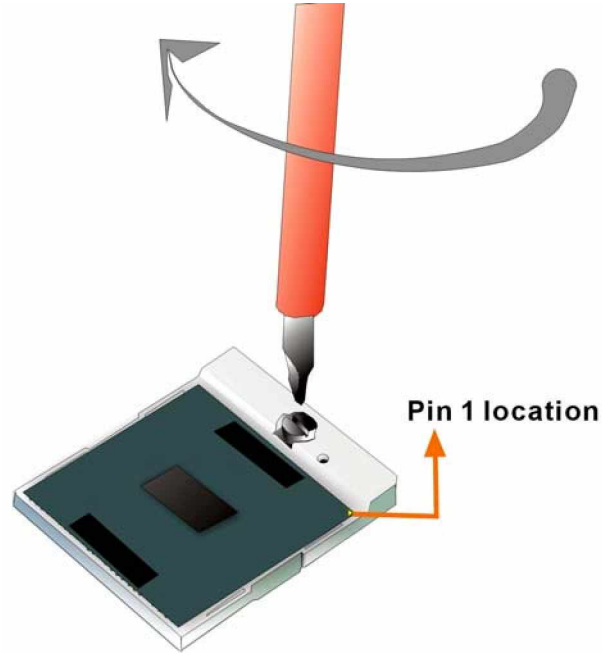

Figure 4-2: Lock the CPU Socket Retention Screw
- d. Rotate the retention screw into the locked position. (See **Figure 4-2**) Step 0: